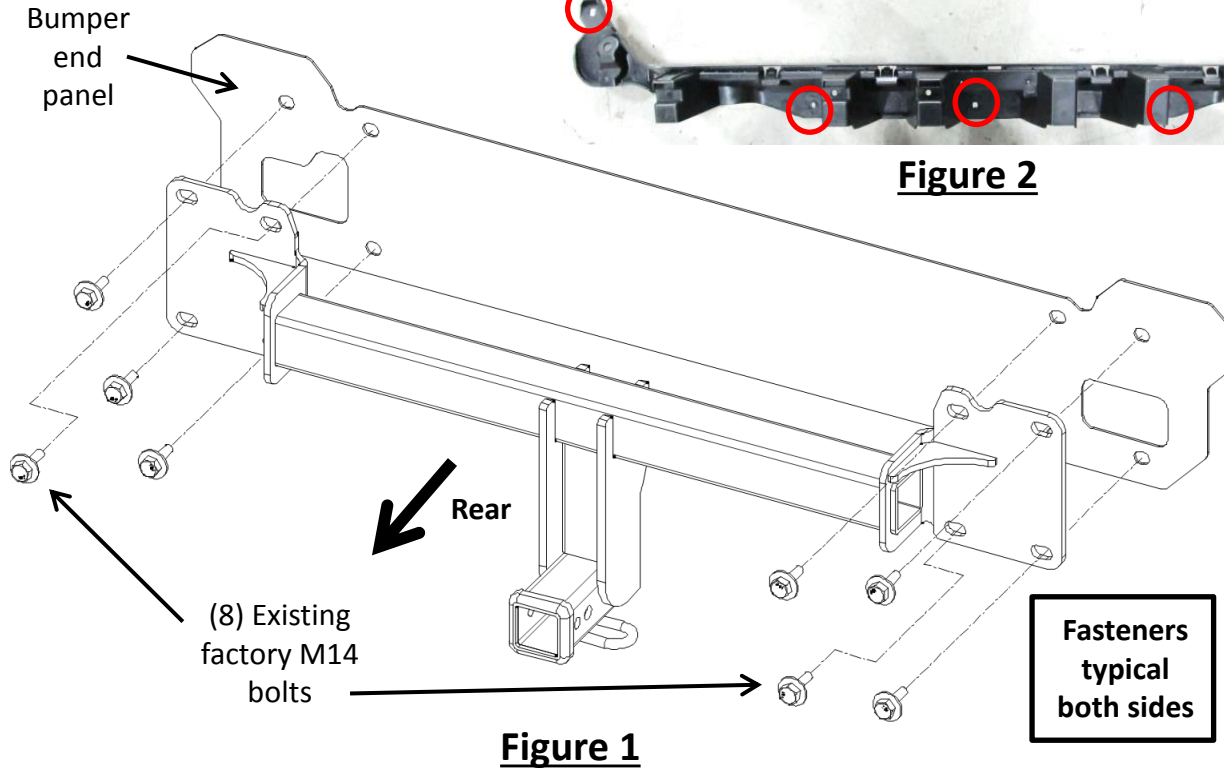

Figure 2
- 1. Bottom appearance panel removal** – Use 10 mm socket to remove (3) screws and screwdriver to remove (4) plastic screws from the bottom panel. Carefully remove the bottom panel and set it aside for reinstallation.
- 2. Fascia removal** – (a) Open the rear hatch. Remove interior trim panel next to taillight each side. Use 10 mm socket to remove (1) screw behind interior trim panel each side. Use screwdriver to remove (1) plastic screw from the fascia each side. (b) Use screwdriver to remove (2) screws from wheel well each side. Behind the wheel well, use T20 torxbit socket to remove (2) screws and screwdriver to remove (4) screws each side. (c) Use plastic trim tools to remove the fascia starting at the outer edges near the wheel wells and gently pull the fascia. Disconnect wiring harness on driver side if present.
- 3. Bumper beam removal** - Use 8 mm socket to remove (5) screws from the panel above bumper beam, see **Figure 2**. Use 21 mm socket to remove (4) M14 factory bolts from bumper beam each side. Gently remove the panel and bumper beam and set them aside. Return bumper beam to vehicle owner.